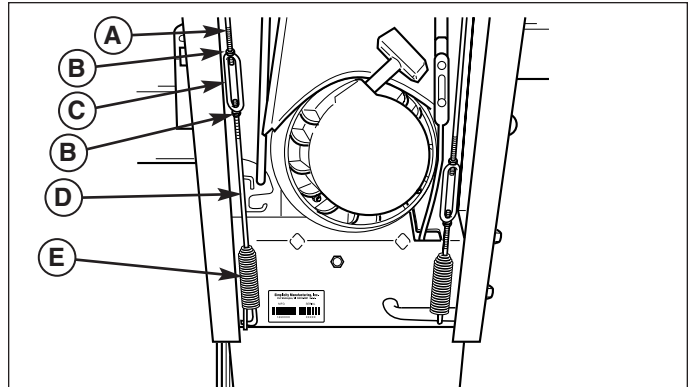

Figure 21. Traction Drive Adjustment (Channel Handle Models)
- With the drive lever engaged, bottom end of lower rod (D, Figure 21) should be flush with bottom of spring (E).
- To adjust, loosen the two nuts, (B) and hold the lower rod to keep from rotating. Turn the turnbuckle (C) toward the right to lower rod or toward the left to raise rod.
- Engage the drive lever to check the adjustment. When correct, tighten the two nuts (B) against the turnbuckle (C). Hold the turnbuckle (C) with pliers while tightening the nuts (B).